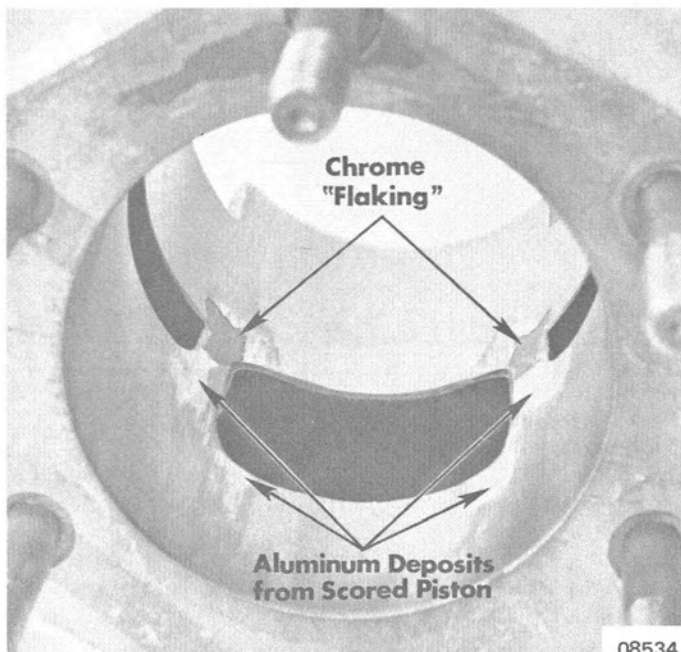

Figure 4. Chrome "Flaking"
9. Carefully inspect cylinder bores for signs of scoring, "flaking" (Figure 4) and grooves. If chrome surfacing is "flaking", grooved, scratched or worn thru, cylinder must be replaced.
IMPORTANT: Cylinder bores are surfaced with chrome. If chrome surfacing is "flaking" (Figure 4), grooved or damaged in any other manner, cylinder(s) must be replaced. If pistons have scored and transferred aluminum to cylinder bores, honing usually will "clean up" the cylinder bores.